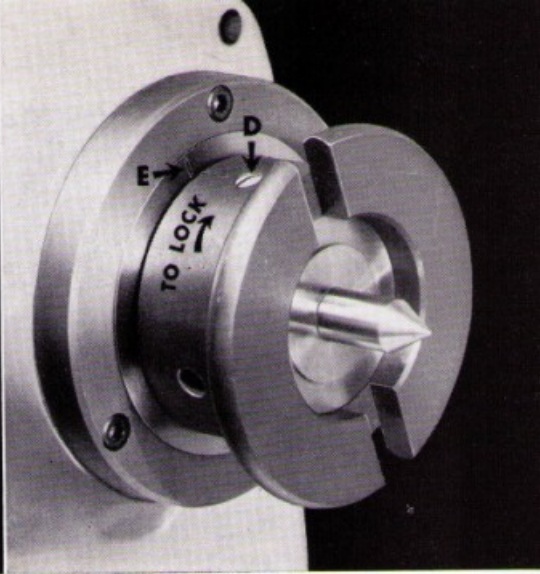

Figure 10
**TO APPLY** the drive plate for driving dog, for example, align key "D", Figure 10, with bayonet slot and slide drive plate on spindle nose. When it is back as far as it will go turn the drive plate clockwise to lock in place. This is determined by the relation of the key "D" and spindle reference line "E". Final tightening should be done with a standard pin type spanner wrench. (Use Williams or Armstrong spanner wrench No. 460. Do not use hammer and punch.)